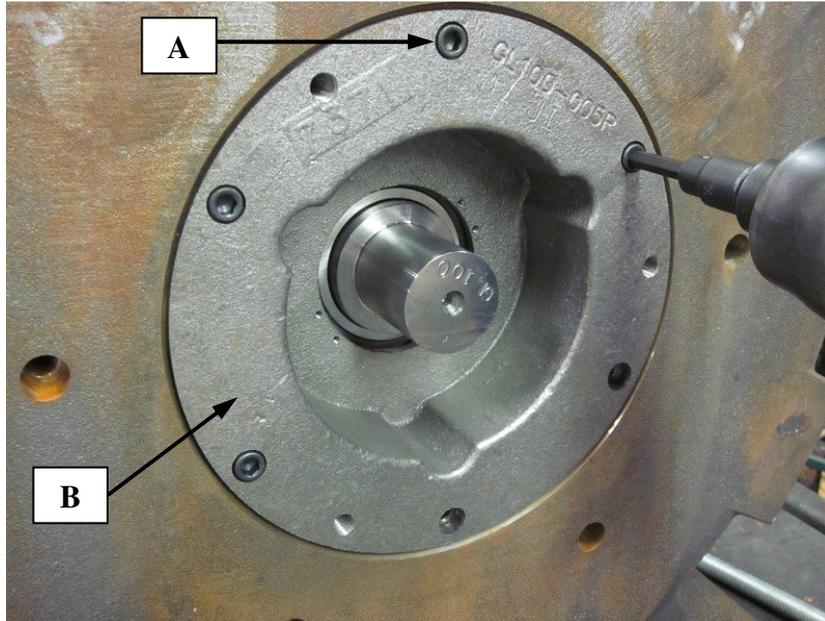

Figure 6 (encoder already removed)
- With the jack in place at the front of the machine, move to the rear of the machine. Remove the encoder, and then remove the screws "A" from the back cap "B." Refer to Figure 6.